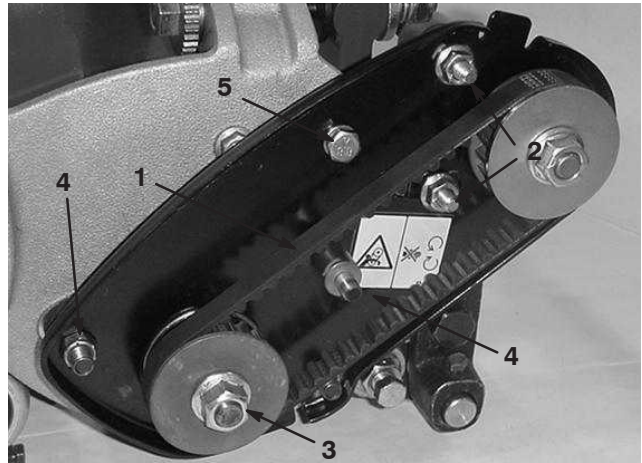

Figure 15
23. Loosen the (2) bearing housing mounting nuts to relieve belt tension (Fig. 15).
24. Remove the belt from the pulleys (Fig. 15).
25. Remove the nut securing the drive pulley to the reel shaft. Remove the pulley from the shaft. Retain the key for re-installation (Fig. 15).
26. Remove the (2) nuts and the bolt securing the reel drive plate to the side plate (Fig. 15). Remove the drive plate assembly.